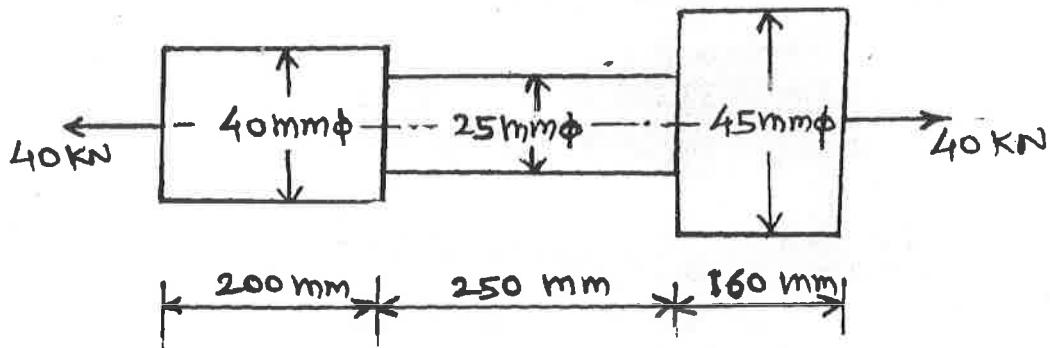

Fig. No. 1
- b) A brass bar shown in Figure No. 1 is subjected to a tensile load of 40 kN. Find the total elongation of the bar if $E = 1 \times 10^5 \text{ N/mm}^2$ and the maximum stress induced.